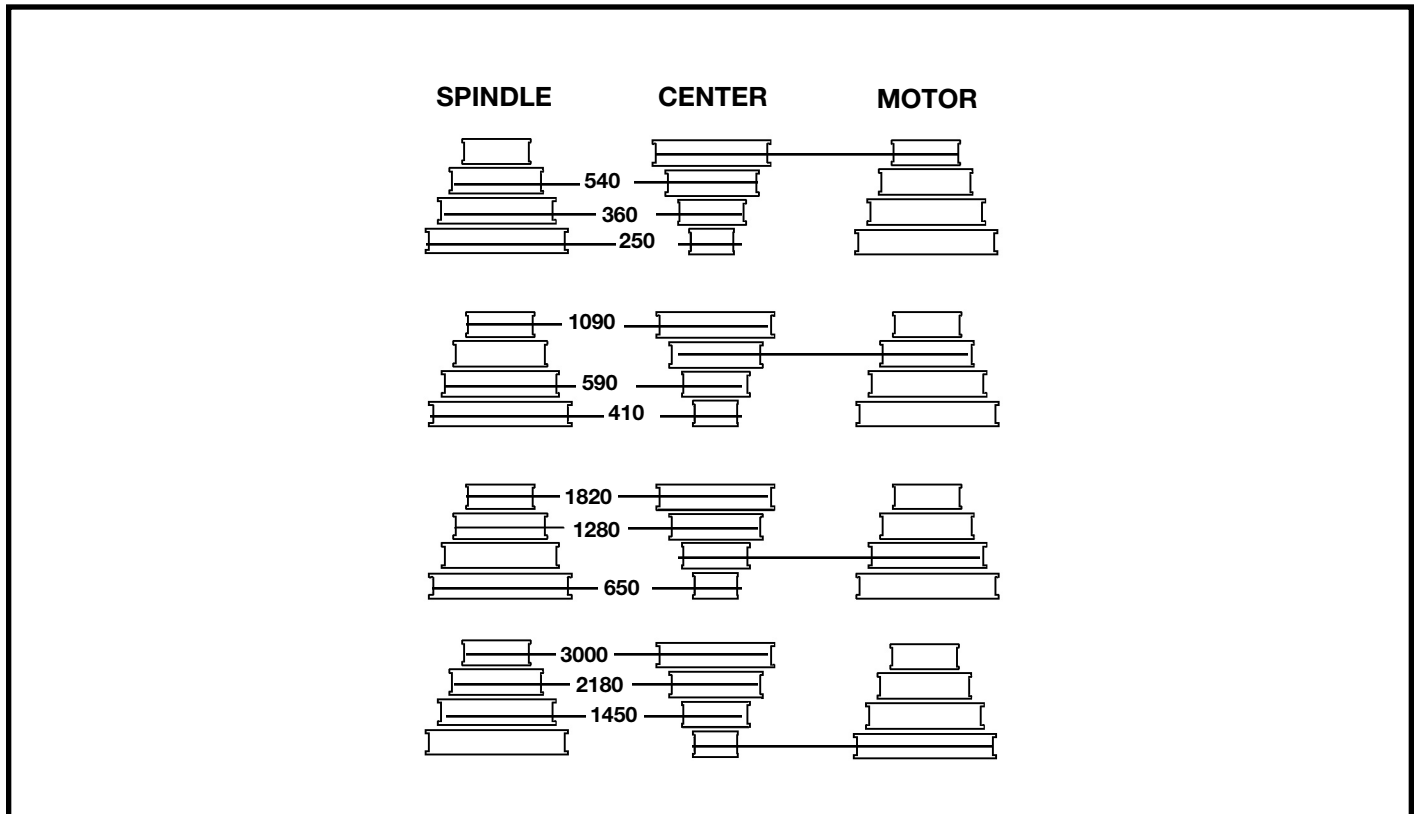

Fig. 27
Twelve spindle speeds are available on the drill press. Fig. 27, illustrates which steps of the pulleys the belts must be placed to obtain the twelve speeds available.
3. While holding the motor toward the front of the drill press, position the belts (F) on the desired steps of the motor and spindle pulleys, as shown in Figs. 27 & 28.